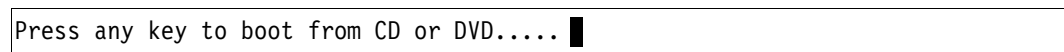

Figure 9-91 Prompt to press a key to boot from the CD or DVD
- When the DVD starts to load, if prompted to press any key (Figure 9-91), press a key so that the DVD starts to boot. If you do not press a key, you return to the UEFI setup window.